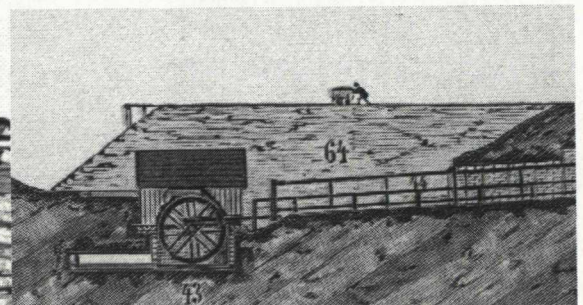

Figure 5 A crank converts the rotational motion of the wheel to a reciprocating movement of the rods (as Fig.4)
1. The "Kunstrad" (Kunst = art, technique, Rad = wheel) delivers the energy for the "Kunst", a system of two reciprocating rods which drive the pumps in the shaft to drain the pit. The rods are connected to the motion of the wheel shaft by a crank (Fig.5).